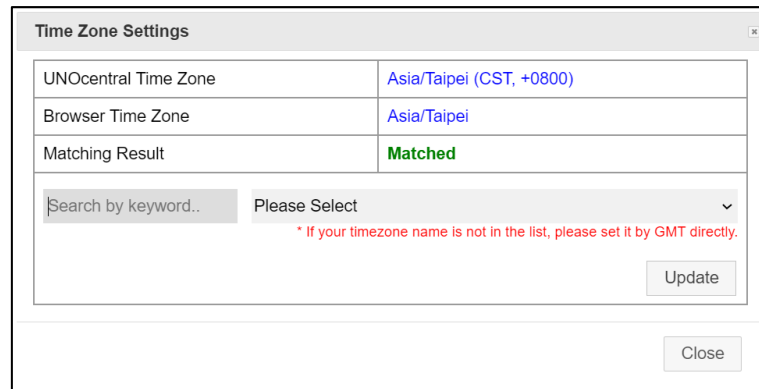

Figure 8 Time zone setting window
- Time Zone Settings: Adjust the operating time zone of UNOCentral. This setting mainly affects the functions of 2.1.1.6 Schedule settings and 2.1.2.4 Data and Chart described in subsequent chapters, please set it correctly. As shown in Figure 8, the current system time zone of UNOCentral and the time zone of the current browser (such as Chrome) will be listed here, as well as matching settings results. Finally, the user, operator, or professional will decide the setting.